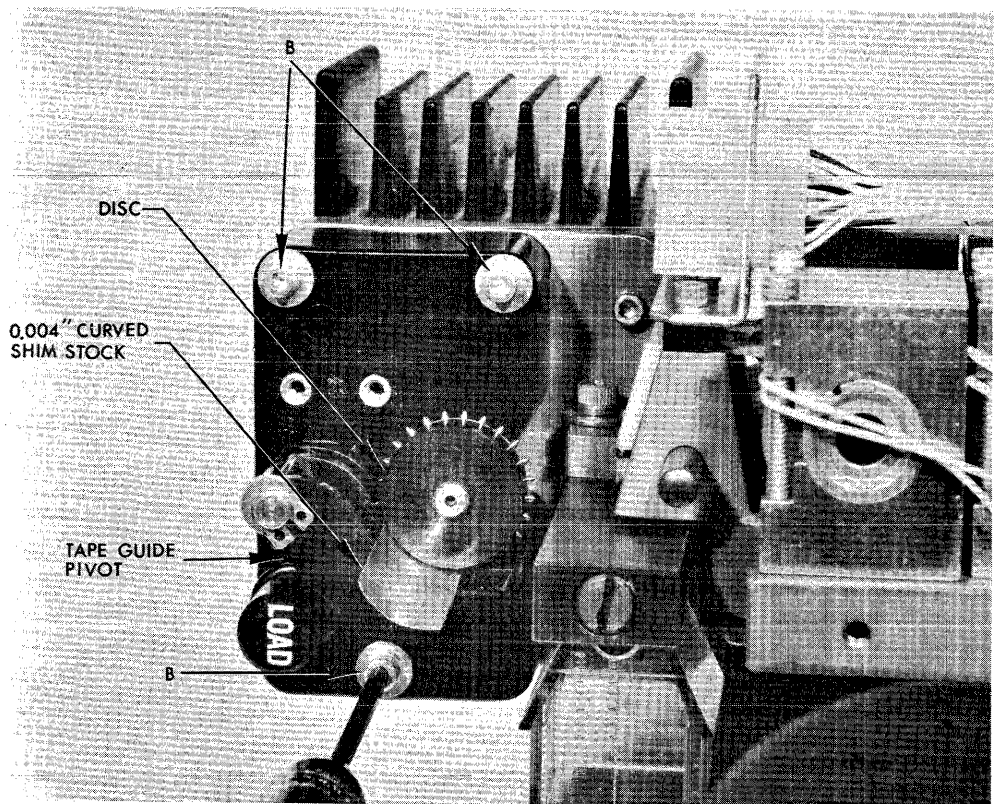

Figure 5-4. Tape Drive Assembly Alignment.
- o. Replace the drive assembly but do not tighten the three screws (B).
- p. Insert a 0.004" curved shim stock between the tape guide pivot on the tape drive assembly and the derlin disk. Position the tape drive assembly so that the spacing shown in Figure 5-4 is 0.004 inch. Tighten the three screws. Recheck the gap. The screws marked B in Figure 5-4 are the same three screws marked B in Figure 7-1.